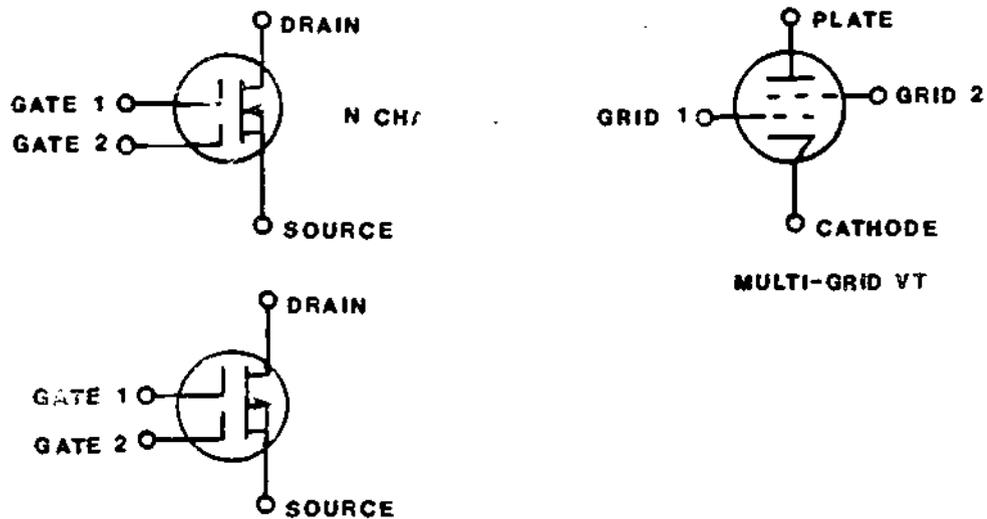

Figure 19
(20) The MOSFETs you have learned about have only one gate, and are called single-gate MOSFETs. Some MOSFETs have an additional gate, and are called dual-gate MOSFETs. The dual-gate MOSFET operates very much like a multi-grid vacuum tube. The labeled schematic symbols for N- and P-channel dual-gate MOSFET's, and a multi-grid vacuum tube, are shown in Figure 19.